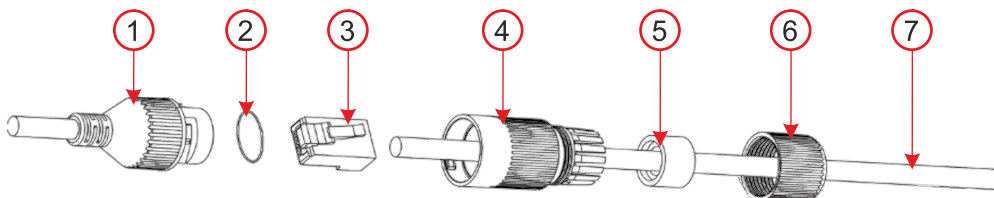

Fig. 4: How to fold the waterproof LAN connector cover
3. Drill holes in the selected location with a \varnothing 6mm drill bit and fix with dowels from the package. Open the mounting base by removing the screws. Depending on the selected cable feed method – centre or side (8), prepare a hole for running the cables. In case of side installation use the cable grommet (4, 5, 6) for the selected hole – (the cable grommet is included in the packing), use the blanking plug (7) for the unused one.
4. Pull the LAN cable through the back of the socket. Screw the back of the socket onto the selected place on the wall with the three screws provided in the packaging. crimp the RJ-45 connector with crimping pliers (see Fig. 4).
5. Plug the RJ-45 connector to LAN connector. If the utilized router or switch does not provide PoE (power over Ethernet), connect the camera power (9) connector to an external 12 V DC power supply (min. 0.5 A).
6. Release the camera mount (14) by turning the rotating ring (1) counter-clockwise when facing the back of the camera. Screw the lid of the mounting socket onto the bottom of the socket and screw the camera mount to the mounting socket using the three screws included in the packaging.